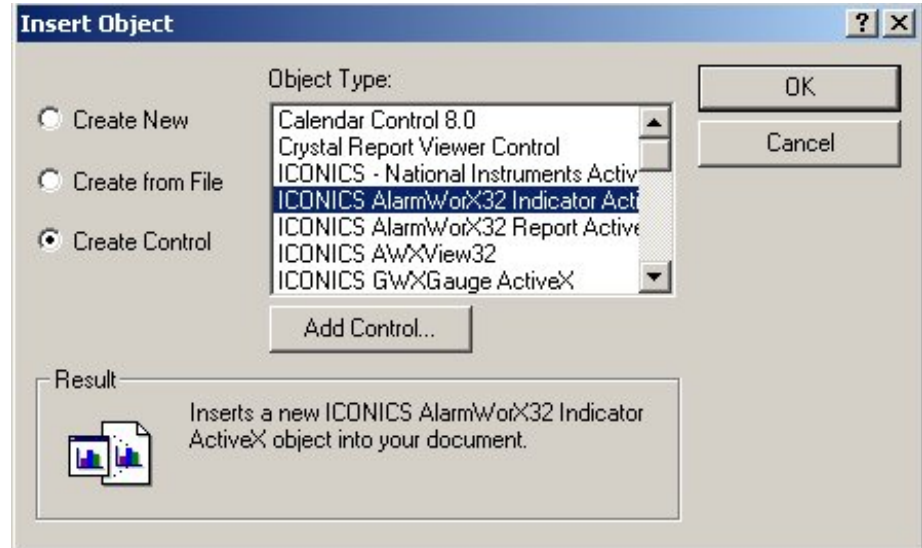

Figure 4-14: Insert Object Dialog Box
1. From the Edit menu, select Insert New Object. The Insert Object dialog box appears (Figure 4-14).